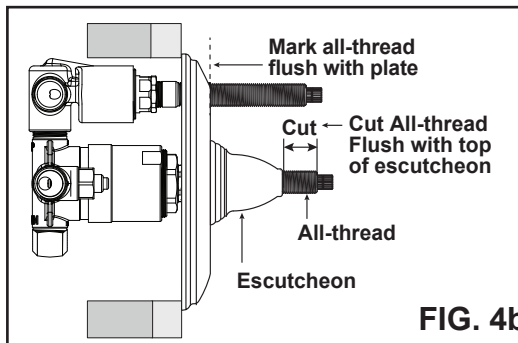

FIG. 4b
2. **For the diverter**, mark the all-thread flush with the trim plate. FIG 4b Remove the all-thread and cut 3/16" behind the mark so that the all-thread will be 3/16" behind the trim plate when reinstalled. FIG 4c Mark the stem flush with the trim plate, remove the stem, and cut at the mark. FIG 4d Reassemble the stem and the all-thread (making sure the locking nut is tightly securing all-thread), then the plate. Position the lever of the diverter handle at a 12 o'clock, while using the knurled nut to fully thread the diverter handle onto the all-thread. FIG 4e
3. **For the center handle**, screw on the escutcheon to the all-thread and mark the all-thread flush with the top of the escutcheon. Cut the all-thread at the mark. FIG 4b Place the handle onto the stem and measure the gap between the bottom of the handle and the top of the escutcheon, then cut the gap distance from the stem so the handle sits just above the escutcheon (the stem should protrude out from the all-thread around 1/4"). FIG 4d Reassemble the stem, all-thread, escutcheon, and handle. FIG 4e See page 3 for heavy handle tension adjustment if necessary